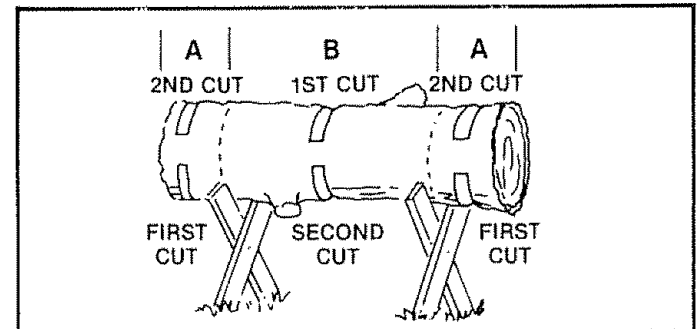

Figure 33
**3. BUCKING — USING A STAND (Figure 33):**